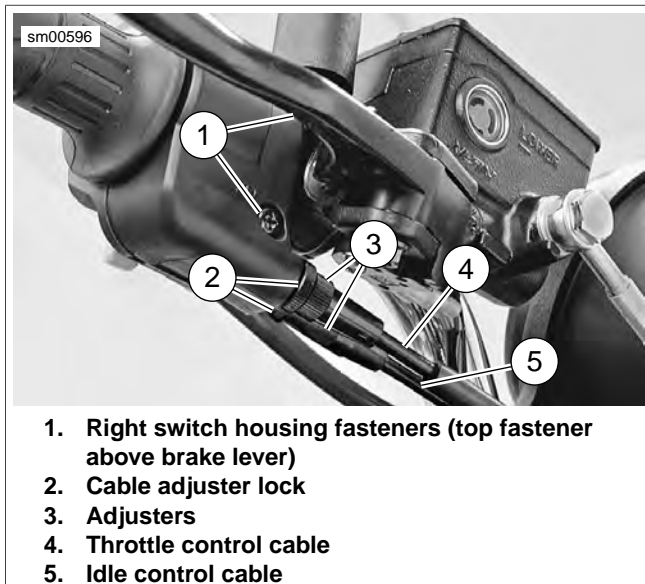
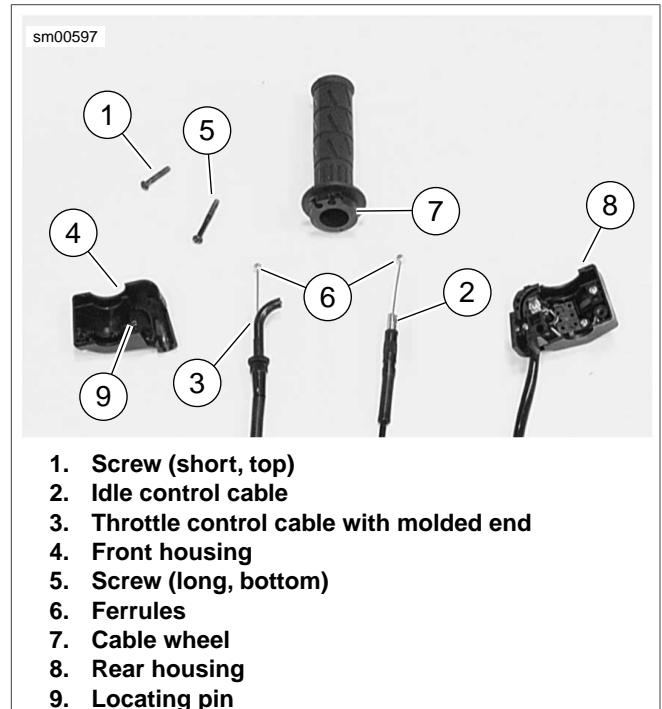

Figure 2-126. Throttle Control Cables
Figure 2-127. Cable Connections
2. See Figure 2-126. Loosen cable adjuster lock (thick disc) (2) on each cable.
3. Turn adjusters (3) in direction which will shorten cable housings to minimum length.
4. Remove fasteners (1) on right switch housing and separate housing from handlebar.
5. See Figure 2-127. Remove cables (2, 3) from notches in front housing (4).
6. Remove cables (2, 3) and ferrules (6) from cable wheel (7).